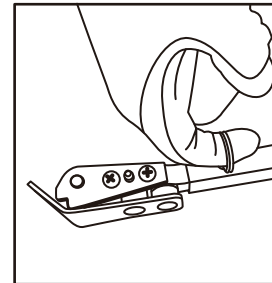

Fig 5
B. When pulling overhead or from above, pull forward pin on Front Extension (6) and rotate 180 degrees and insert back into Base Arm (5) and re-install pin (Fig 5 and 6). Make a loop in the end of the polyline/mule tape and attach the eye around the Polyline/Mule Tape Pin (10) from underside of the Capstan (1). This will allow the polyline/mule tape to continuously accumulate onto the Capstan (1). Switch the 18-Volt drill into FORWARD and payoff like most conventional wire pullers.